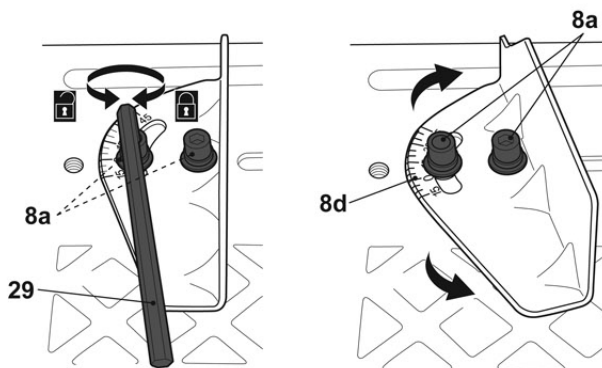

Fig. 6
- > Loosen the mounting bolts (8a) on the scale (8d) with the hex key (29) and adjust the mitre gauge (8) to the required angle (Fig. 6).